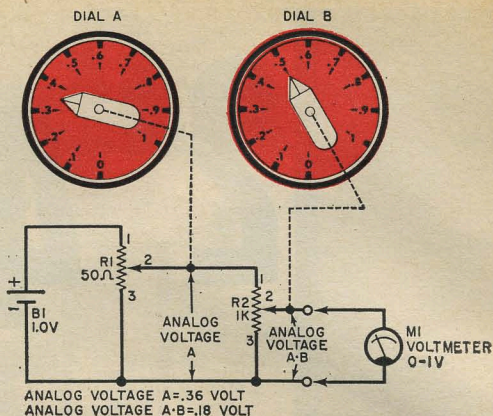
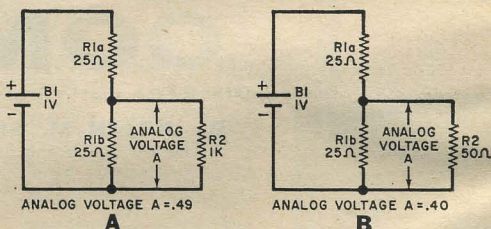
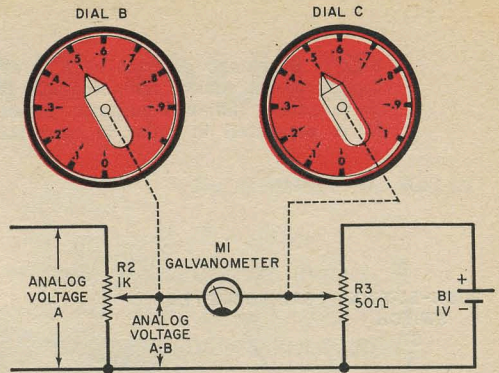

Fig. 2. Two cascaded potentiometers develop voltage analog equal to product of the dial settings.
Fig. 3. Circuits showing cause for loading error (A) when $R2$ is 1000 ohms, (B) when $R2$ is 50 ohms.
Fig. 4. No loading error occurs when voltage on wiper of $R3$ equals analog voltage $A \cdot B$, or .5 volt.
This apparent ability of potentiometers to multiply can best be seen in Fig. 2. Battery $B1$ supplies 1.0 volt across potentiometer $R1$. Dial A is set at 0.36 so that analog voltage A developed at the wiper of $R1$ (0.36 volt) is applied across potentiometer $R2$. Dial B is set at 0.50 so that the voltage at the wiper of $R2$ will be only 0.50 times the voltage across
Loading Error. Looking again at Fig. 2, you will note that the value of potentiometer $R1$ is 50 ohms, whereas potentiometer $R2$ is a 1000-ohm unit. The reason for this is quite simple, provided you down-gear your thinking from analog computers to simple d.c. networks. Figure 3(A) corresponds to Fig. 2 when
the wiper of $R1$ is set at 0.50 or mid-position. Hence, $R1a$ in Fig. 3(A) represents the "top half" of $R1$ in Fig. 2 (the portion between terminals 1 and 2). Likewise, $R1b$ represents the "bottom half" of $R1$ (the portion between terminals 2 and 3). We know from the dial setting that analog voltage A should be 0.50 volt. However, let's see what analog voltage A actually is in Fig. 3(A).
mately 24.4 ohms. Using Ohm's law, we find that the voltage drop across $R1b$ (in parallel with $R2$) is approximately 0.49 volt. This means that $R2$ in Fig. 2 will tend to lower the true value of analog voltage A and introduce a small error. In the case cited, the error is only 2%—not much for this simple computer circuit.
In Fig. 3(B), the value of $R2$ was selected as 50 ohms solely to illustrate the loading effect of $R2$ on $R1b$. In this instance, the combined resistance of $R1b$ and $R2$ is approximately 17 ohms. Again resorting to Ohm's law, we find analog voltage A developed across $R1b$ and $R2$ to be approximately 0.40 volt. Compared to the desired analog voltage of 0.50, the loading effect of a 50-ohm potentiometer will introduce an error of 20%—an excessive amount for most purposes.
It should be evident, then, that when two potentiometers are connected as shown in Fig. 2, the second one ($R2$) should be many times larger than the first one ($R1$). However, do not be tempted into believing a potentiometer with a very large resistance—one megohm, say—will completely solve our loading problem. Even if the resistance value of the second potentiometer is very large, a voltmeter connected across its wiper and bottom terminal will also cause a loading effect and hence introduce error. This is due to the resistance of the voltmeter itself—usually only several thousand ohms.
Galvanometer Indicator. One method of removing the loading effect of the voltmeter ($M1$) used in Fig. 2 is to replace it with an indicator that requires no current to indicate the analog voltage developed by a potentiometer. Such a device is the galvanometer indicator shown schematically in Fig. 4.
Close inspection of the circuit in Fig. 4 reveals that current will flow through galvanometer $M1$ whenever the wipers of potentiometers $R2$ and $R3$ select voltages that are not equal. This condition causes the galvanometer pointer to deflect either to the left or right of its normal "center rest" or "zero deflection" position.
An important fact to note in Fig. 4 is that potentiometer $R3$ has a value of 50 ohms. This is permissible, since (1) $R3$ does not load the computer circuits when the correct answer is set on dial C and (2) the lower value is desired so that when an incorrect answer is selected the deflection of $M1$ will be large due to the large currents flowing through the galvanometer movement. This large deflection due to an incorrect answer enables the computer operator to adjust dial C accurately for a galvanometer null or zero deflection. In operation, of course, the galvanometer deflects either to the right or left of its center position, depending upon whether the wiper of $R3$ is positive or negative with respect to the wiper of $R2$.